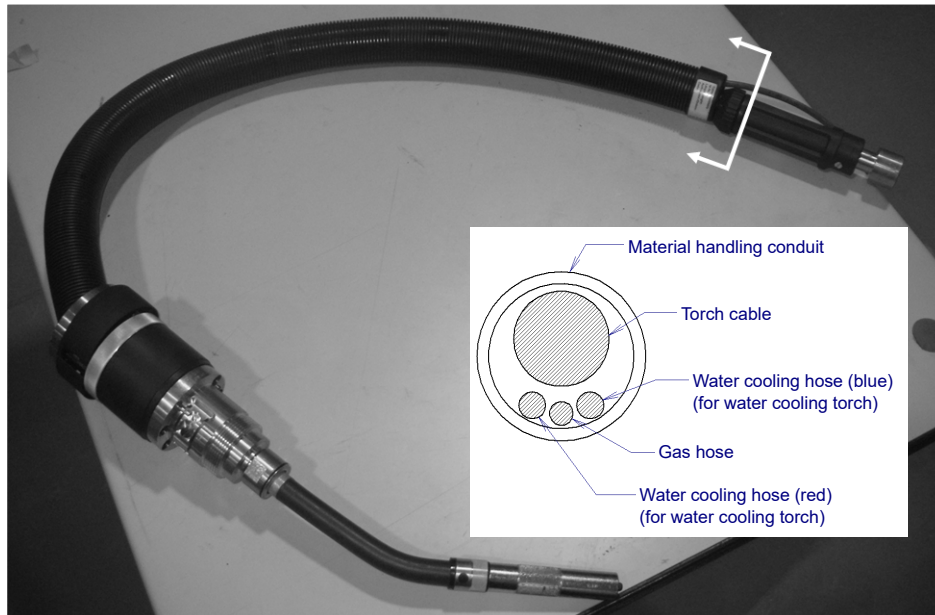

Fig. 7.4 (a) Torch appearance (Section view is seen from the arrow direction)
- 2 Confirm the gas hose and the water cooling hoses arrange as Fig. 7.4 (a). In addition, remove the torch cable from the conduit and confirm grease is applied on the hoses and does not occur interference of the hoses.